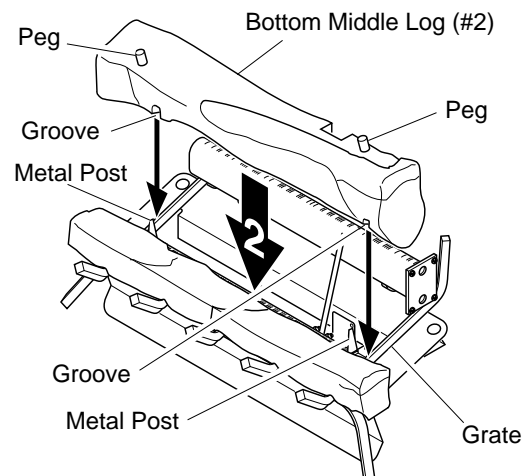

Figure 24 - Installing Bottom Middle Log (#2)
2. Rest bottom middle log (#2) behind metal posts on front burner. Make sure the grooves in the bottom of the log fit over the grate. Bring the log forward next to the metal posts. The pegs on the log must be on top (see Figure 24).